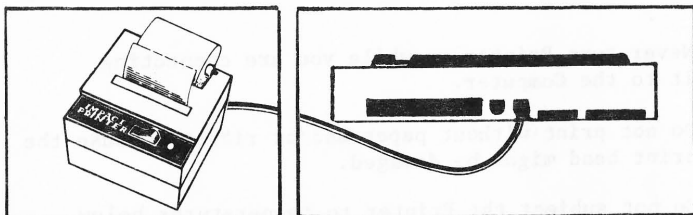

FIGURE 5.
- b. Plug the end of the Printer Cable into the Computer's Serial Port connector located in the back of your computer. This cable is "keyed" so that you cannot plug the cable in the wrong way. This means that the pins should be positioned so that a slight pressure will seat the cable properly. You should not have to force the pins in, for doing so could damage the cable. (See FIGURE 5.)